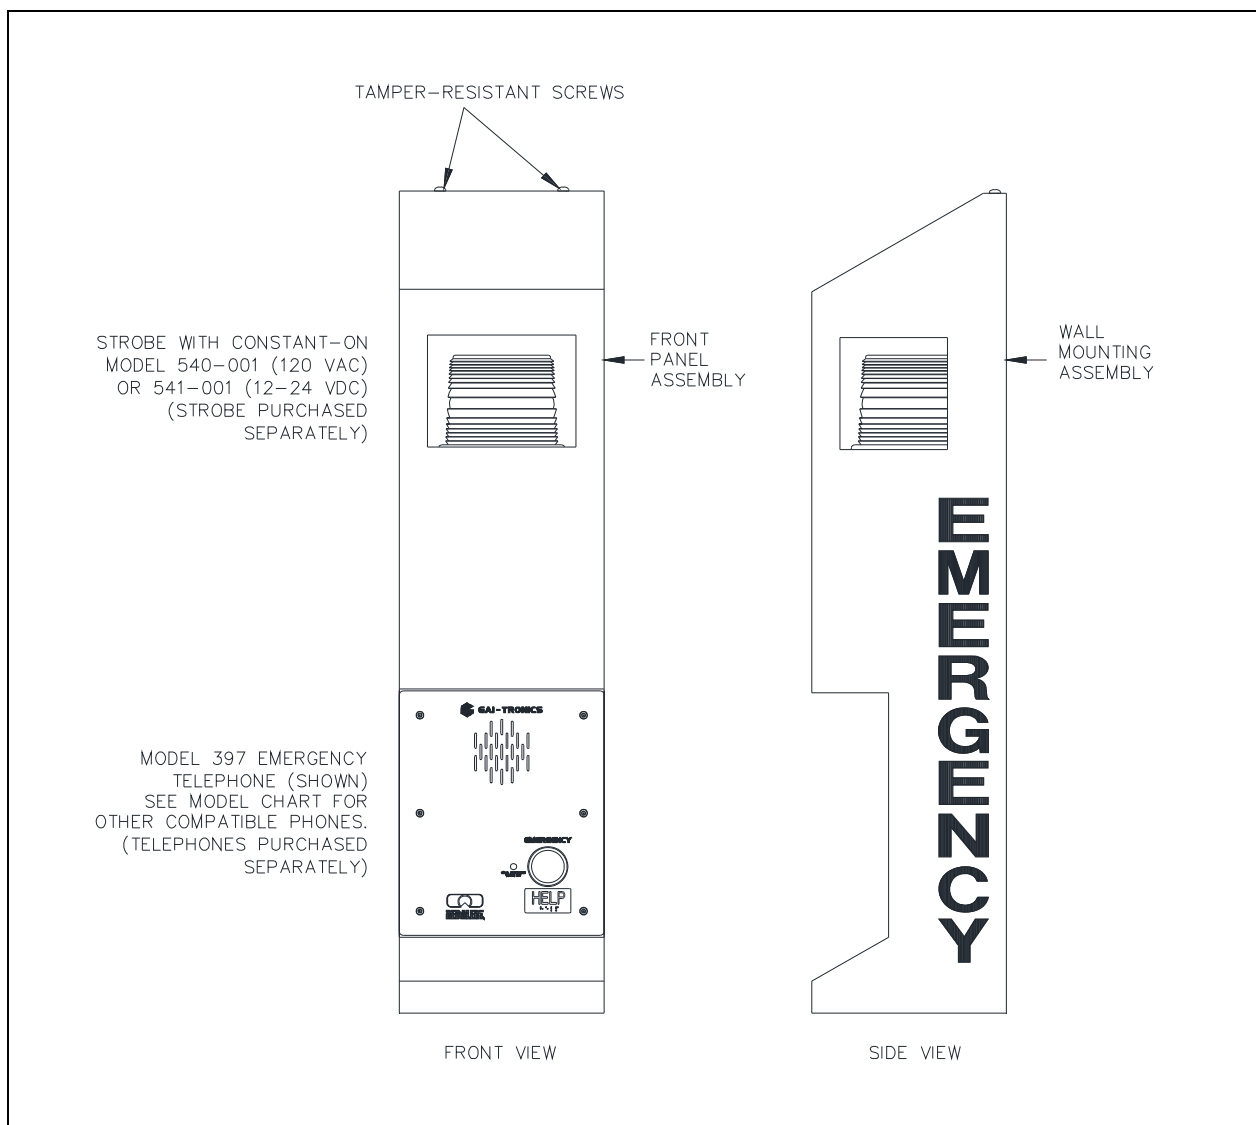

Figure 1. Model 234WM-202 Wall-Mount Station Enclosure
1. Remove and save the two tamper-resistant screws at the top of the station (see Figure 1).
2. Remove the wall-mounting assembly from the front panel assembly (see Figure 1).